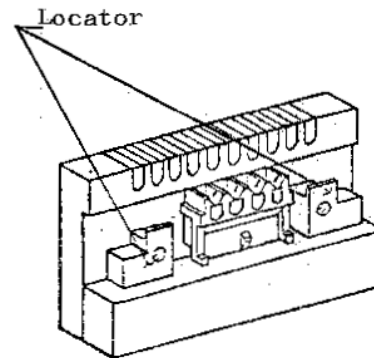

Fig. 10
- (1) Loosen the screws that secure connector locators (right and left), and place the connector you are to terminate with its center line aligned with that of wire stuffer. (See Fig. 10.) For this adjustment, wire combe must be removed before setting.